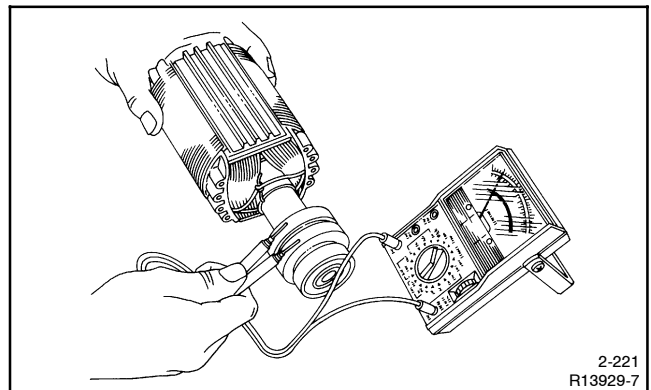

Figure 5-9 Rotor Resistance Check
5. Check the rotor for continuity and resistance. Raise the brushes from the slip rings while performing ohmmeter tests. Measure the rotor resistance (ohms) between the two slip rings; see Figure 5-9. See Section 1.5 for rotor resistance readings. If the resistance readings are low, perform a megohmmeter test on rotor as described in the next step.